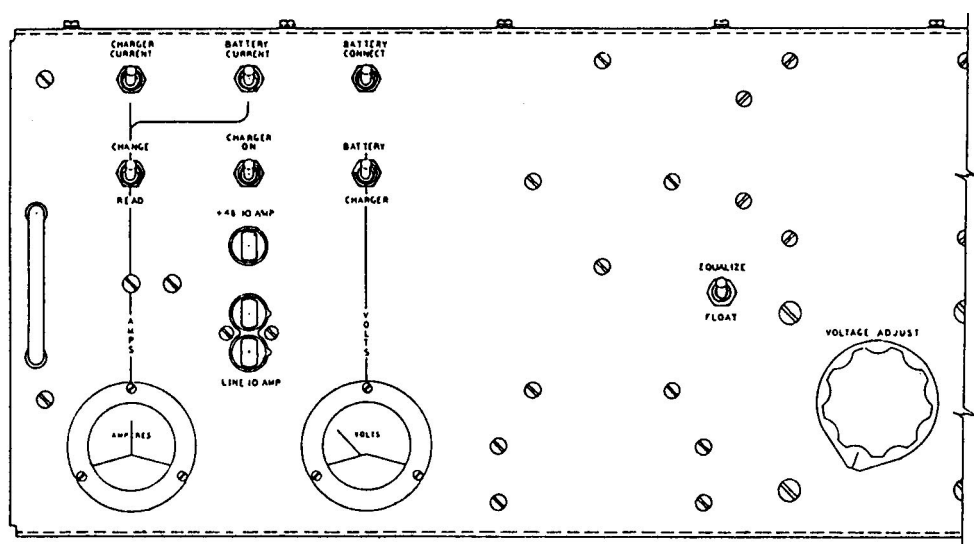

Figure 6-22.—Power supply.
**POWER SUPPLY.**— The switchboard power supply (fig. 6-22) receives a 115-volt, 60-Hz, single-phase input from the main IC switchboard. The power supply takes this input and internally develops